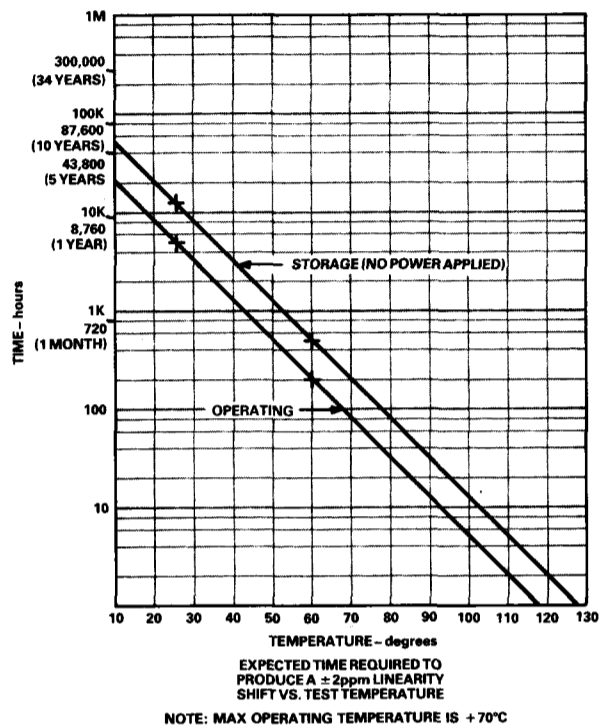

Figure 7. Nonlinearity vs. Time/Temperature
- ⁴See Figure 7 for typical long-term linearity stability vs. temperature. Also, see the BURN-IN section on page 6 for caution against preconditioning by the user.
Figure 7 shows how long it would take for the AD1139's linearity to drift $\pm 2\text{ppm}$ ($1/2\text{LSB}$) at any operating temperature. The uppermost plot shows stability under storage conditions (no power), and the lower plot shows the AD1139's operating stability (under power). The operating vs. storage difference is due to the 10°C temperature rise when the AD1139 is powered.
As shown in Figure 7, exposure to elevated temperatures produces an acceleration of the normal aging process. Preconditioning/burn-in employed by the user will lead to premature linearity shifts outside of the initial guaranteed specifications. The ADI warranty will not cover DACs that exhibit this type of forced premature specification degradation.